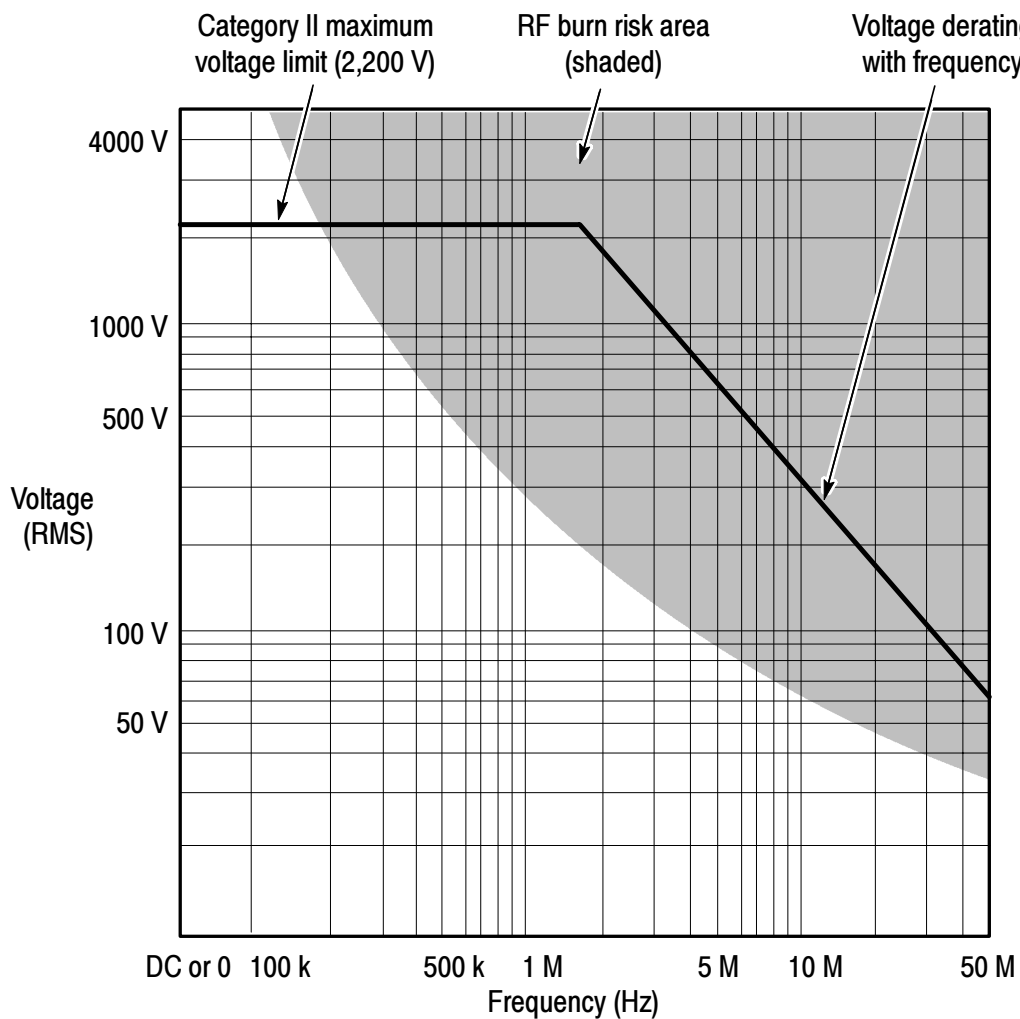

Figure 4: Safety limits (voltage between either input and earth ground)
Maximum rated input voltage (Refer to Figure 4 on page 9)
WARNING. To avoid personal injury, do not handle the probe leads when the leads are connected to a source that is in the voltage and frequency range indicated by the shaded area in Figure 4. This area of operation poses a risk of radio frequency (RF) burns.